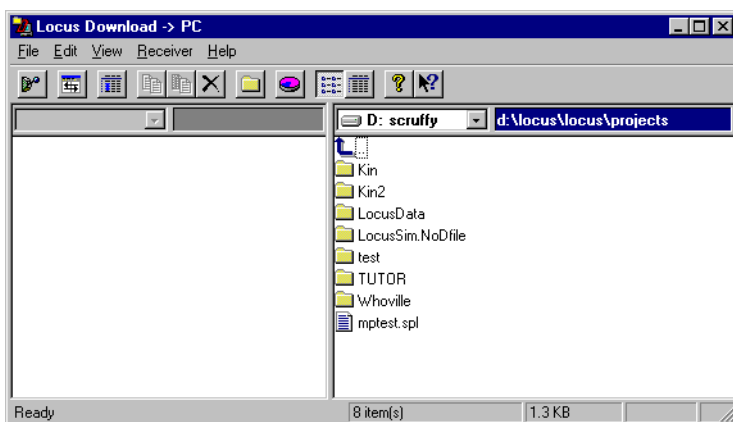

Figure 2.12: Locus Download Main Window
2. Start Locus Download (Figure 2.12).